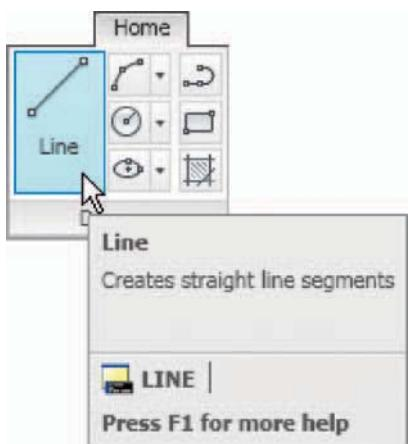
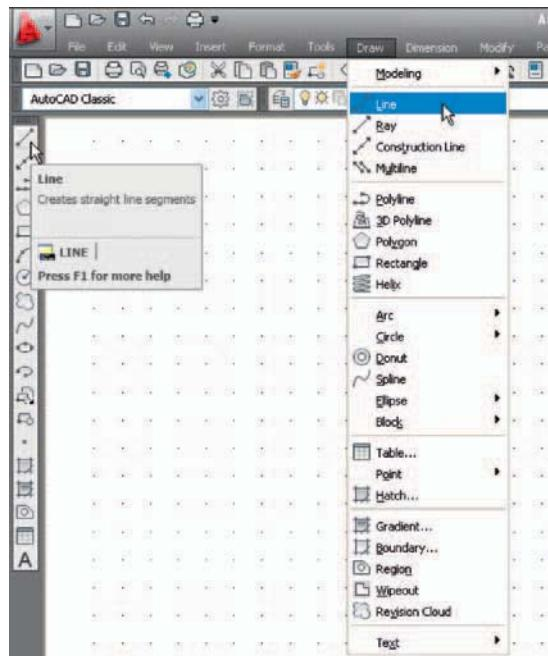

Fig. 2.1 The Line tool from the Home/Draw panel with its tooltip
Fig. 2.2 Selecting the Line tool in the Classic AutoCAD workspace
Illustrations throughout this chapter will be shown as working in the **2D Drafting & Annotation** workspace. In this workspace the **Home/Draw** panel is at the left-hand end of the **Ribbon** and **Draw** tools can be selected from the panel as indicated by a *click* on the **Line** tool (Fig. 2.1). In this chapter all examples will show tools as selected from the **Home/Draw** panel. However, methods of construction will be the same if the reader wishes to work in other workspaces. When working in the **Classic AutoCAD** workspace **Draw** tools can be selected from the **Draw** toolbar (Fig. 2.2) The **Draw** tools can also be selected from the **Draw** drop-down menu (Fig. 2.2) whether working in **2D Drafting & Annotation** or **Classic AutoCAD**.
2. *Left-click* on the **Line** tool in the **Home/Draw** panel, in the **Draw** toolbar (Figs. 2.1 and 2.2) or *enter* line or **L** at the command line.